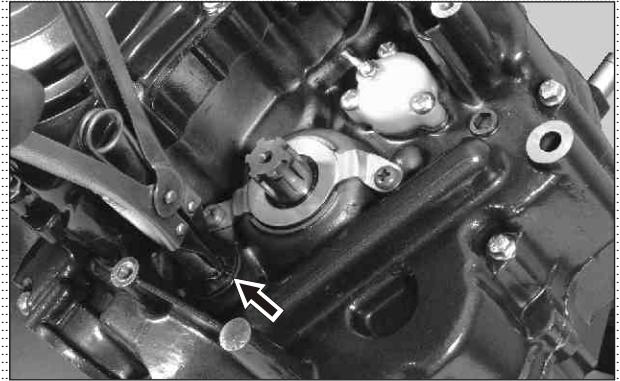

Fig. 3.46
- Remove circlip from the shaft complete gear shift and take out washer. (Fig. 3.46)